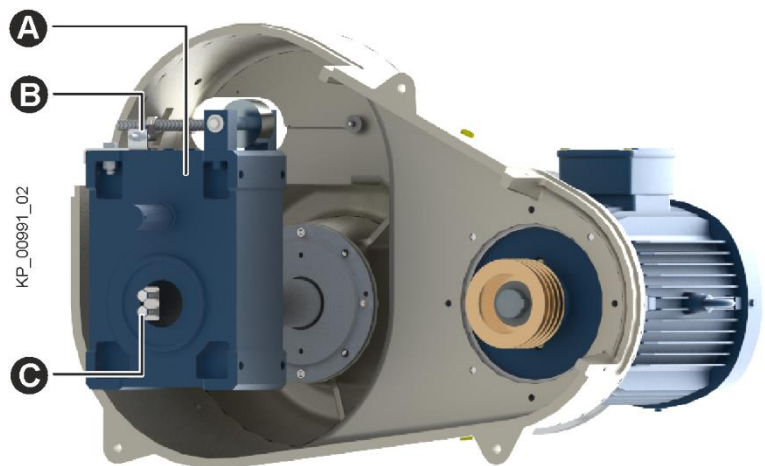

Fig. 66: Removing the slip-on gear
- Disconnect the speed monitor (Fig. 66/B).
- Remove the locking plate (Fig. 66/C) of the gear.
- Carefully remove the slip-on gear (Fig. 66/A) from the main shaft.
- Put on the slip-on gear (Fig. 66/A) and secure it with the locking plate (Fig. 66/B).